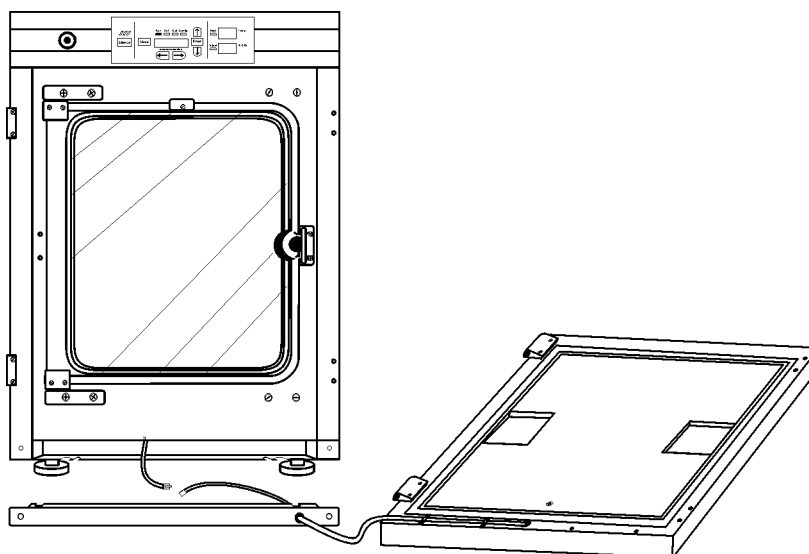

Figure 5-4. Unit with Detached Door
7. The incubator and door should look similar to Figure 5-4.